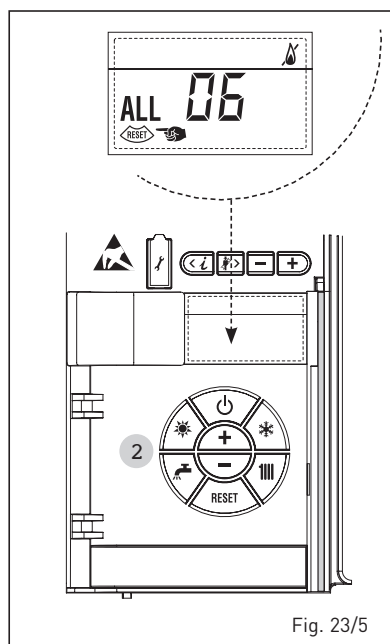

Fig. 23/5
**- SAFETY THERMOSTAT OR LIMIT THERMOSTAT ANOMALY ALARM 07 (fig. 23/6)**